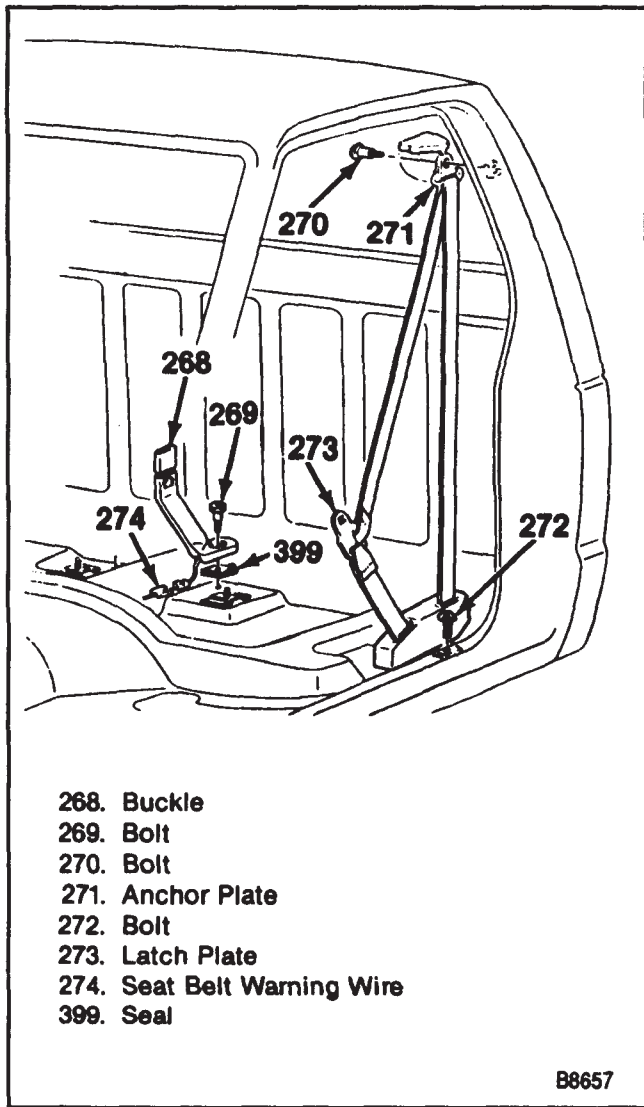

Figure 17—Regular Cab Front Seat Belt
➡➡ Remove or Disconnect (Figures 17, 18, and 19)
- On "Regular Cab" vehicles, remove seal between the buckle assembly and the floor (figure 17).
↔↔ Install or Connect (Figures 17, 18, and 19)